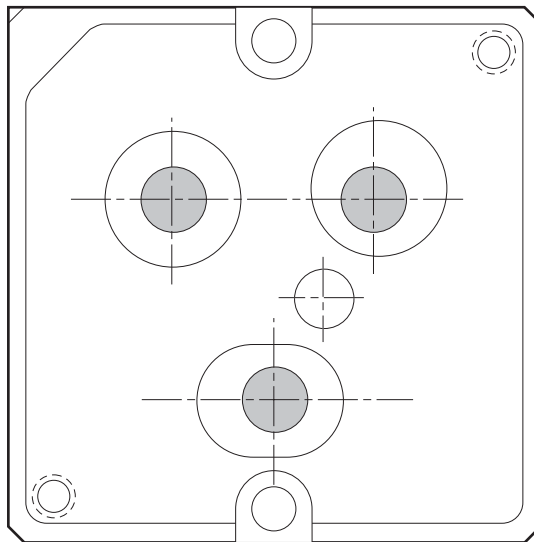

Figure 202 Agilent 10737L Compact Three-Axis Interferometer —return beam pattern
- 11 Check the position of the beams in the interferometer's output apertures (see Figure 202).
- 8 Check the position of the beams in the interferometer's output apertures (see Figure 202).